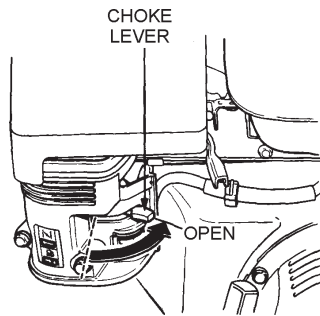

Figure 15. Choke Lever (Open)
7. If the engine has started, slowly return the choke lever (Figure 15) to the "OPEN" position. If the engine has not started repeat steps 1 through 6.